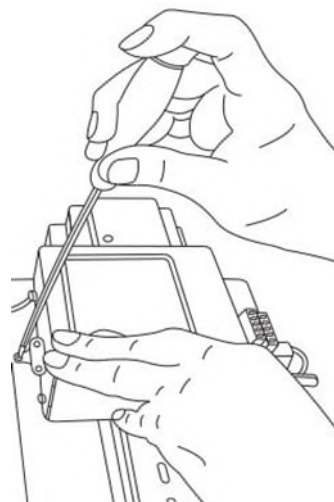

Figure 78. Disconnecting the electro-optical module from the DIN rail
6. With the screwdriver, press down on the clip extension and away from the top of the module. Refer to Figure 78. The electro-optical module should pop up.